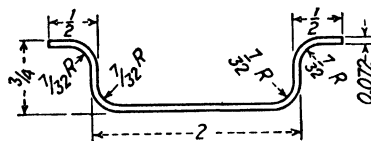

Fig. 259.
4. Calculate the total bend allowance and over-all length of the flat pattern for the fitting in Fig. 259. All bends are 90°